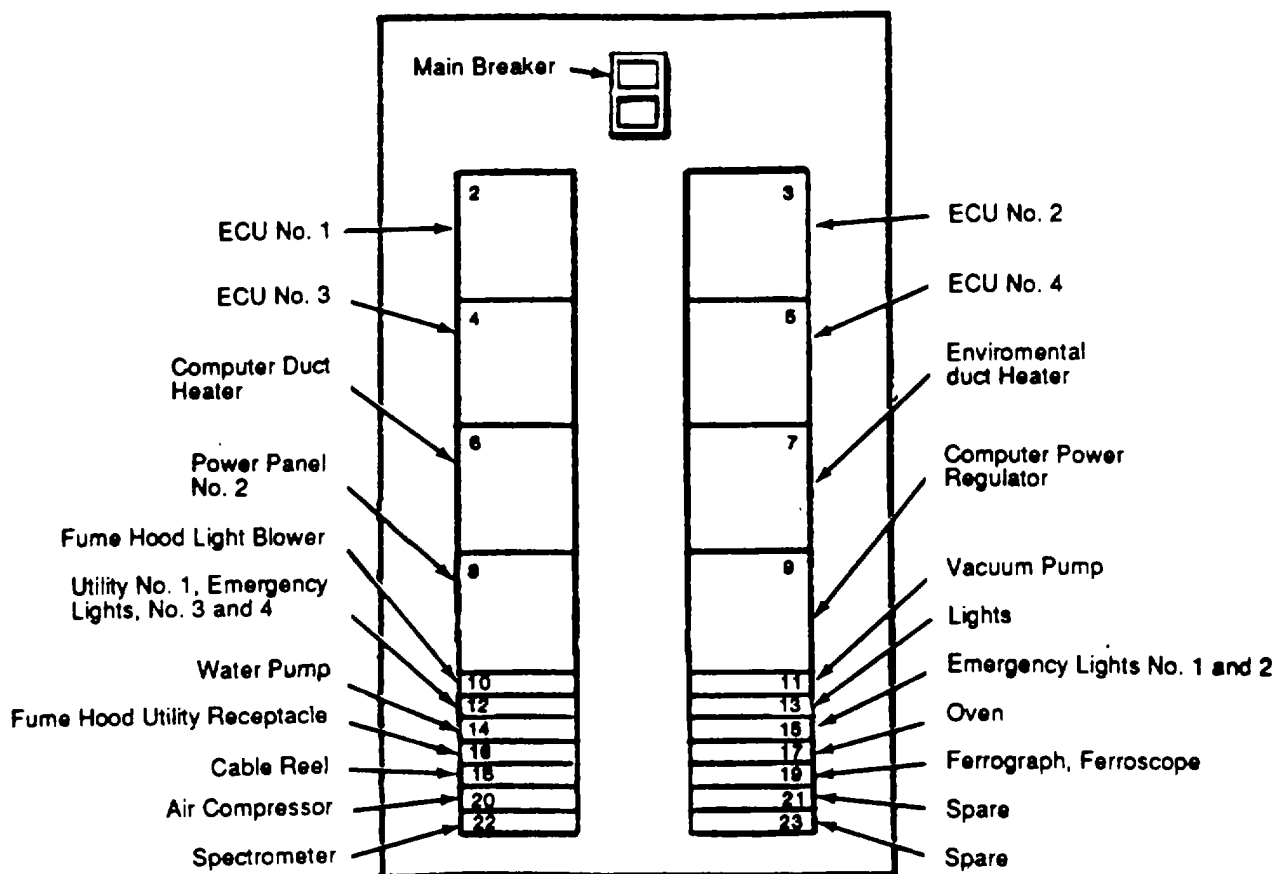
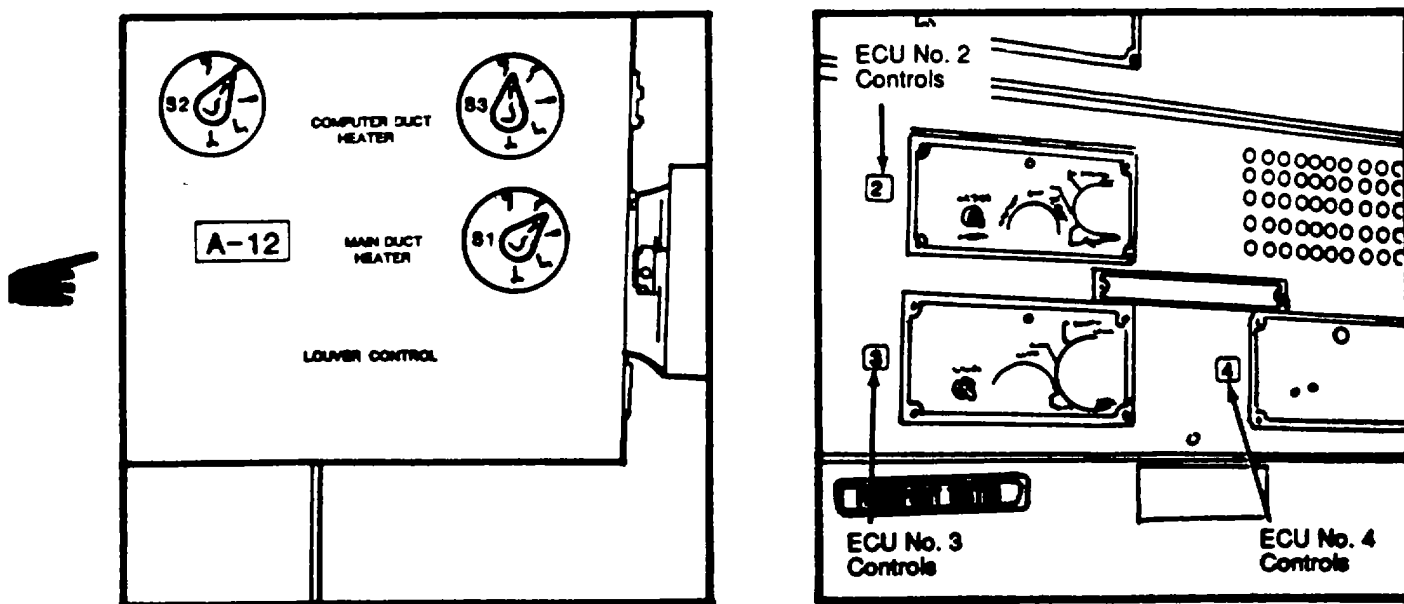
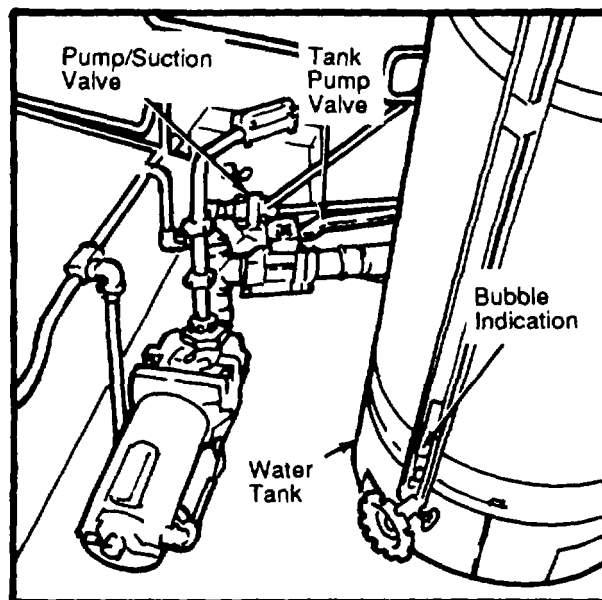

Figure 2-5. Main Power Panel
Figure 2-6. Switches S1, S2, S3 and ECU No. 2, 3, 4 Controls
Figure 2-13. Water Tank and Pump
(3) Switch generator to load conditions and actuate the purge timer located in the power entrance box on the AOAP Mobile Laboratory. The phase indicator green light in the power entrance box should now be on. However, if the red light is on, then set generator to a no-load condition and recheck power cable connections and retry for green phase indicator.
(4) Enter the main laboratory compartment by using the curbside forward door. Unlock the forward door and enter the mechanical room and reset main circuit breaker (Figure 2-5) by turning it to the "on" position.
(5) Turn S2 Switch (Figure 2-6) to the "ON" position prior to turning the computer duct heater breaker on.
(6) Turn S1 Switch to 100 percent, S3 Switch to the "ON" position and ECU NO.2, 3, and 4 controls to the "HIGH" speed setting.
(7) Switch on the circuit breakers in the Main Power Panel (Figure 2-5) as required.
(9) Switch on circuit breaker in Power Panel number 2 as required.
(10) Remove any auxiliary overpack containers from the rear, main and utilities walkways.
(11) Remove any preservation masks, covers, and panels from the laboratory equipment.
(12) Remove any preservative/packing material from the compressor, vacuum pump, water pump, and any other support/services device located in the mechanical room.
(13) As climatic conditions apply, activate the appropriate ECU No. 2, 3, and 4 controls (heating and/or cooling) (Figure 2-6).
- (1) Close all compressed air system service valves (Refer to Table 2-8).
- (2) Turn on the air compressor circuit breaker No.20 in Main Power Panel (Refer to Figure 2-5).
- (1) Close all vacuum system service valves (Refer to Table 2-9).
- (2) Turn on the vacuum pump circuit breaker switch No. 11 in the Main Power Panel (Refer to Figure 2-5).
- (3) Vacuum system is now operational.
(5) Fill the water tank (60 Gallon Capacity) (Figure 2-13) until the bubble indicator reaches the top, which indicates that the tank is full.
- (3) Close the tank/pump valve (Figure 2-13).
- (4) Open the Pump/Suction Valve.
- (5) Turn on the water pump switch located in the main power panel (Figure 2-5) and proceed to fill the tank.
- (6) Close pump/suction valve (Figure 2-13).
- (3) Set the "TANK/SYSTEM" Switch and the "WATER FLOW FACILITY SUPPLY" Switch to "SYSTEM".
- (4) Set the "FILTER VALVE" Switch to "OFF".
- (5) Close the pump suction valve (Figure 2-13).
- (6) Open the Tank/Pump valve.
- (7) Turn on the water pump switch located in the main power panel (Figure 2-5) to pressurize the system.